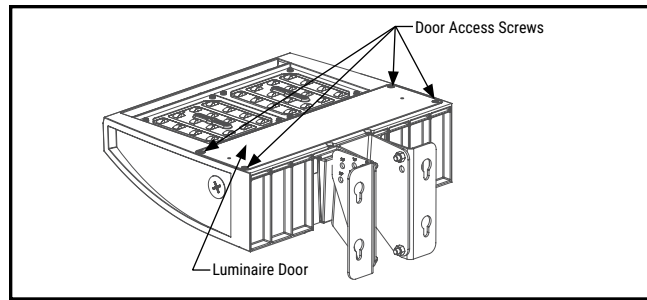

Figure 3.
4. Make all connections within the luminaire by accessing the 12" pigtail inside the door of the luminaire (Figure 3).